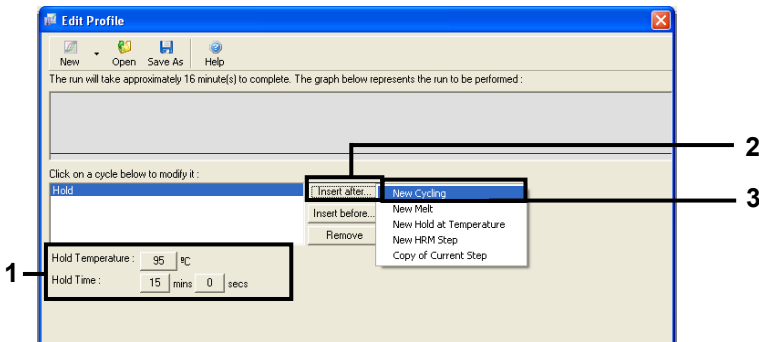

Figure 5. Initial incubation step at 95°C. (1 = "Hold Temperature and Hold Time"; 2 = "Insert after"; 3 = "New Cycling.")
7. Set the value in the **Hold Temperature** field to to **95°C** and the value in the **Hold Time** field to **15 minutes 0 second**. Click **Insert After**, then select **New Cycling** (Figure 5).